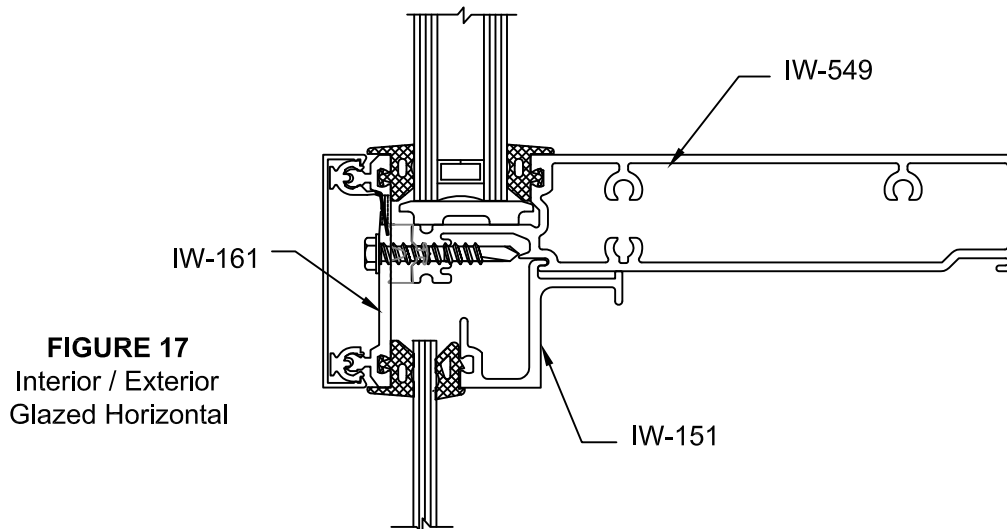
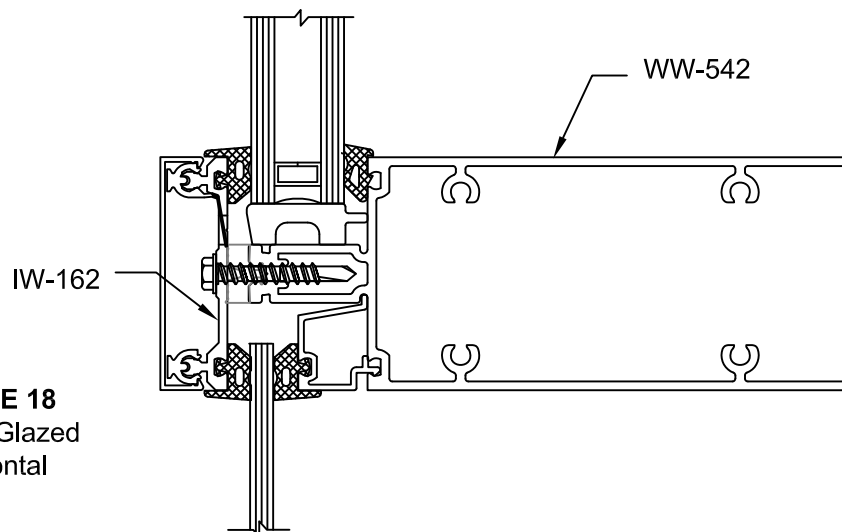
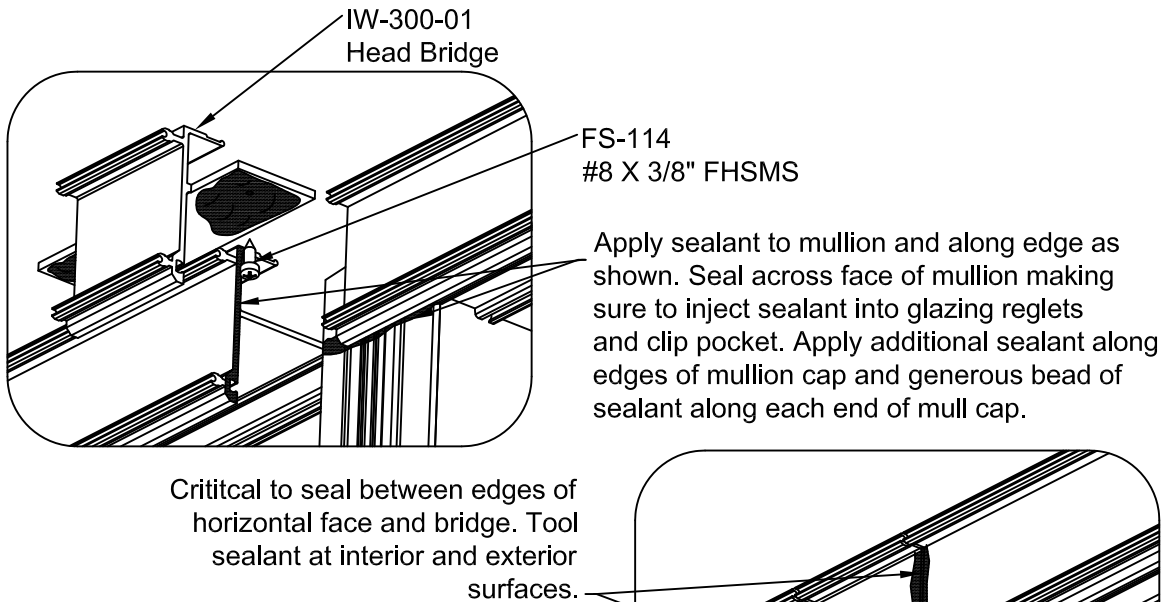

FIGURE 17
FIGURE 18
FIGURE 33
- 2.5 Attach head to vertical using two FS-9 fasteners. Attach intermediate horizontals and sill members using FS-8 fasteners. SEE FIGURE 8, page 10. Tool excess sealant at horizontal-to-vertical joints. Optional exterior glazed horizontal may require additional fasteners. SEE FIGURE 18, page 17 for optional horizontal information.
- 3.11 When glazing areas of wall requiring mid span anchors it will be necessary to exterior glaze. Reliance-IG SS offers two exterior glazed horizontals for this purpose. The horizontal shown in FIGURE 17 is for areas where interior and exterior glazing may be required such as at the upper horizontal of an area with mid span anchors or may be used for easy reglazing. The horizontal in FIGURE 18 is for exterior glazed areas only and may also be used at the upper horizontal of areas with mid span anchors.
- 4.8 Exterior glazing will be necessary on lites located adjacent to mid-span anchors and may also be required at building floors. Horizontals with a removable pressure plate must be used at top and bottom of lite to allow for exterior glazing. See FIGURE 17 & 18, page 17. If exterior glazing SSG system, WW-300 bridges will be installed at each horizontal. See FIGURES 33,34 & 35, pages 30 & 31.
- 4.19 Prior to installing glass, horizontal bridges must be installed and sealed. Head and sill bridges will be installed as shown in FIGURES 33 & 34. Intermediate horizontals will use two different bridges based on interior or exterior glazing. SEE FIGURES 33, 34 & 35, page 30 & 31.